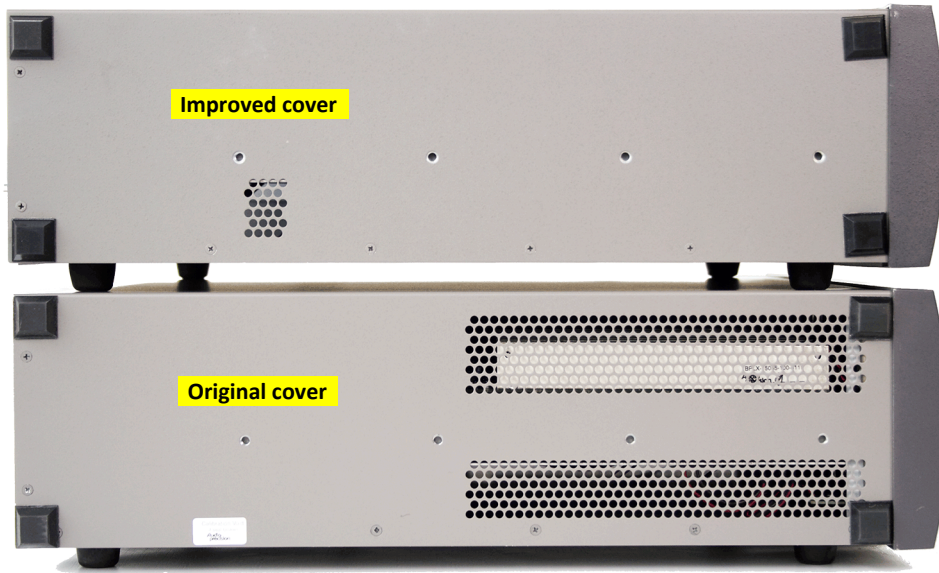

Figure 1 APx586 original (bottom) and improved (top) covers.
1. Observe the location of the ventilation holes in the top cover and then identify it in Figure 1 below. If the instrument has the original cover, replace it with the improved one. Then, re-attach the carrying handle, and affix the four new feet to the side as shown.